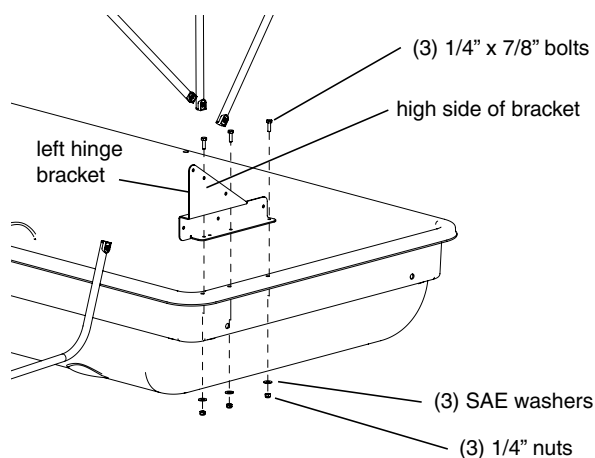

FIGURE 1B (left side shown)
1. Attach the left hinge assembly (68426) to the upper lip of sled using (3) provided 1/4-20 x 7/8" bolts, nyloc nuts and SAE washers. **SEE FIGURE 1B.**
NOTE: Be sure hinge assembly is orientated as shown in **FIGURE 1B**, with high sides of hinges placed to the front of sled and hinge poles to the inside.